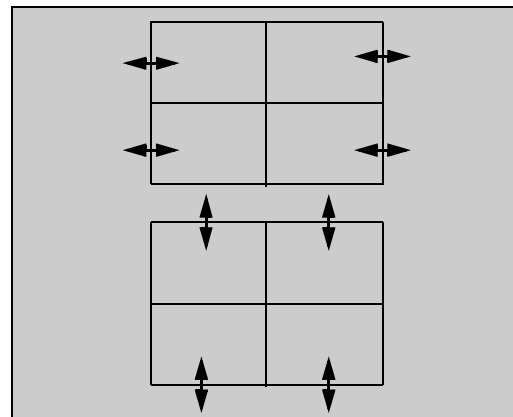

Figure 38. H & V Size Adjustment
28. Adjust so that the line on the border closes to the screen frame at top, bottom, left and right (See Figure 38)